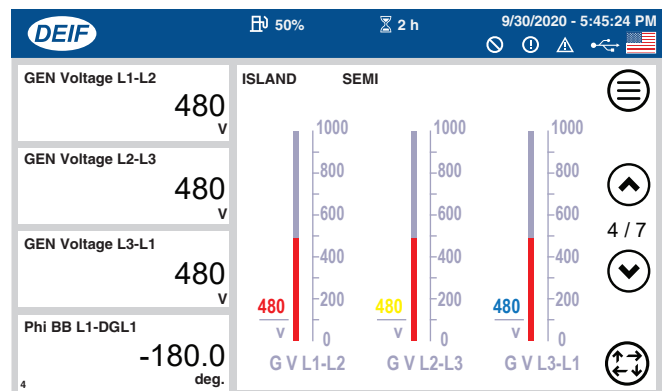

Figure 63. Output Voltage Status Screen (4 of 7)
12. Verify that the **Output Voltage Status screen (4 of 7)** is displayed. Observe the **L1, L2 and L3 voltage readings**. See Figure 63.